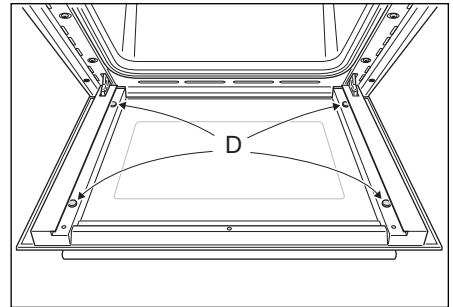

Fig.24a
- Check that the four rubber pads are in place ("D" in Fig. 24a)